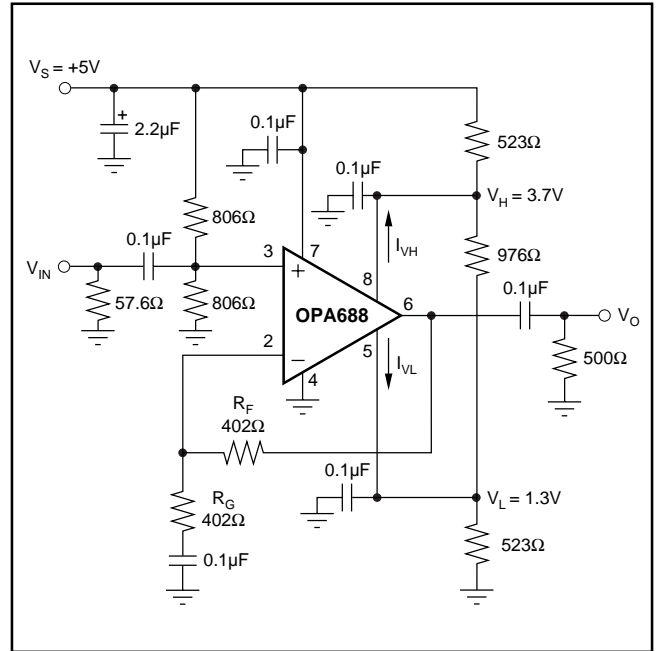

FIGURE 2. AC-Coupled, Single Supply Amplifier.
NOTES: (1) Junction Temperature = Ambient Temperature for low temperature limit and 25°C guaranteed specifications. Junction Temperature = Ambient Temperature + 23°C at high temperature limit guaranteed specifications. (2) TEST LEVELS: (A) 100% tested at 25°C. Over temperature limits by characterization and simulation. (B) Limits set by characterization and simulation. (C) Typical value for information only. (3) Current is considered positive out of node. (4) CMIR tested as < 3dB degradation from minimum CMRR at specified limits. (5) I_{VH} (V_H bias current) is negative, and I_{VL} (V_L bias current) is positive, under these conditions. See Note 3, Figures 2, and Figure 8. (6) Limiter feedthrough is the ratio of the output magnitude to the sinewave added to V_H (or V_L) when $V_{IN} = 0$. (7) V_H slew rate conditions are: $V_{IN} = V_{CM} + 0.4V$, G = +2, $V_L = V_{CM} - 1.2V$, $V_H =$ step between $V_{CM} + 1.2V$ and V_{CM} . V_L slew rate conditions are similar. (8) Linearity Guardband is defined for an output sinusoid (f = 5MHz, $V_O = V_{CM} \pm 1V_{p-p}$) centered between the limiter levels (V_H and V_L). It is the difference between the limiter level and the peak output voltage where SFDR decreases by 3dB (see Figure 8).
$G = +2$, $R_F = 402\Omega$, $R_L = 500\Omega$ tied to $V_{CM} = 2.5V$, $V_L = V_{CM} - 1.2V$, $V_H = V_{CM} + 1.2V$, (Figure 2 for AC performance only), unless otherwise noted.
Figure 2 shows an AC coupled, non-inverting gain amplifier for single supply operation. This circuit was used for AC characterization of the OPA688, with a 50Ω source, which
The OPA688 is nominally specified for operation using either ±5V supplies or a single +5V supply. The maximum specified total supply voltage of 12V allows reasonable tolerances on the supplies. Higher supply voltages can break down internal junctions, possibly leading to catastrophic failure. Single supply operation is possible as long as common mode voltage constraints are observed. The common mode input and output voltage specifications can be interpreted as a required headroom to the supply voltage. Observing this input and output headroom requirement will allow design of non-standard or single supply operation circuits. Figure 2 shows one approach to single-supply operation.
When the limiter voltages need to be within 2.1V of the supplies ($V_L \leq -V_S + 2.1V$ or $V_H \geq +V_S - 2.1V$), consider using low impedance buffers to set V_H and V_L to minimize errors due to bias current uncertainty. This will typically be the case for single supply operation ($V_S = +5V$). Figure 2 runs 2.5mA through the resistive divider that sets V_H and V_L . This keeps errors due to I_{V_H} and $I_{V_L} < \pm 1\%$ of the target limit voltages.